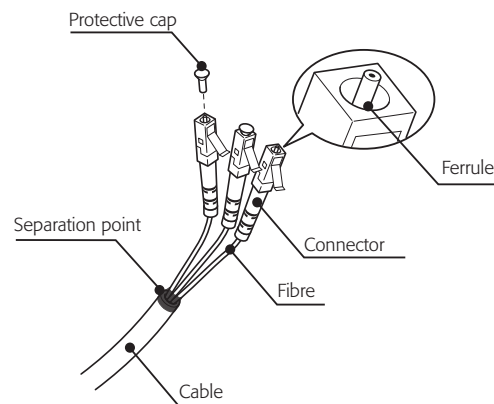

Fig.13
- The individual optical cables are delicate: always handle the main cable without touching the individual optical cables (Fig.13). Never pull the individual optical cables or connectors; if necessary, you may pull the main three-core cable.